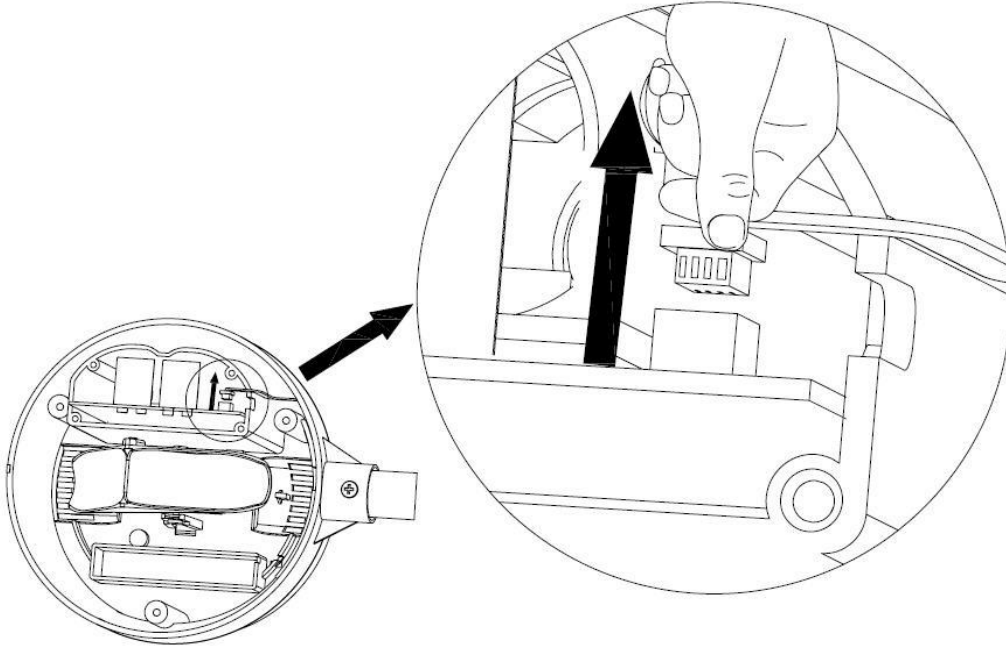

Figure 13
4. Remove the sensor wire from the guide, and with a small flathead screwdriver to provide force, pull the connector from the socket, as shown in Figure 13 (the block size in the image has been exaggerated for illustration purposes). You will need to work the connector back and forth and carefully pull out of the socket.